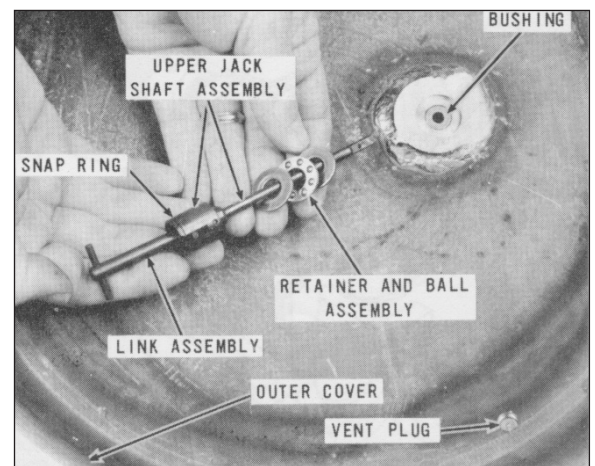

Figure 7 – Jackshaft Assembly
5. Remove the upper jackshaft, thrust bearing, and link assembly, Figure 7. If reusable, clean, polish and coat with grease.
6. Check the jackshaft bushing, Figure 7, for wear. Bushing may be replaced if worn.
7. Inspect the retainer and ball assembly, Figure 7, for wear. If worn, replace. Be sure flat side of races are next to bearings.